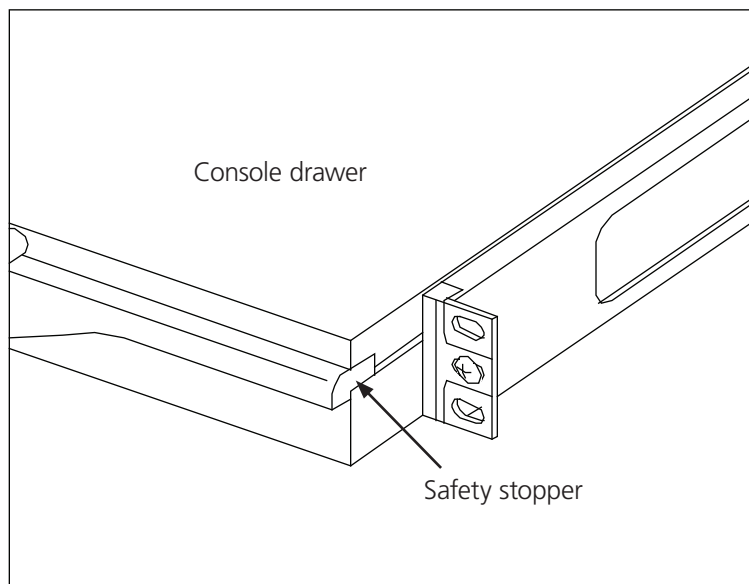

Figure 3-6. Locating the safety stopper.
3. Using four cabinet screws (included), screw the console drawer onto the rack. See Figures 3-6 and 3-10.